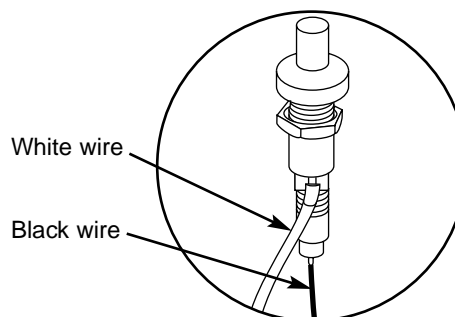

Figure 16
- Check that both the white and black ignition wires are attached properly. Figure 16.